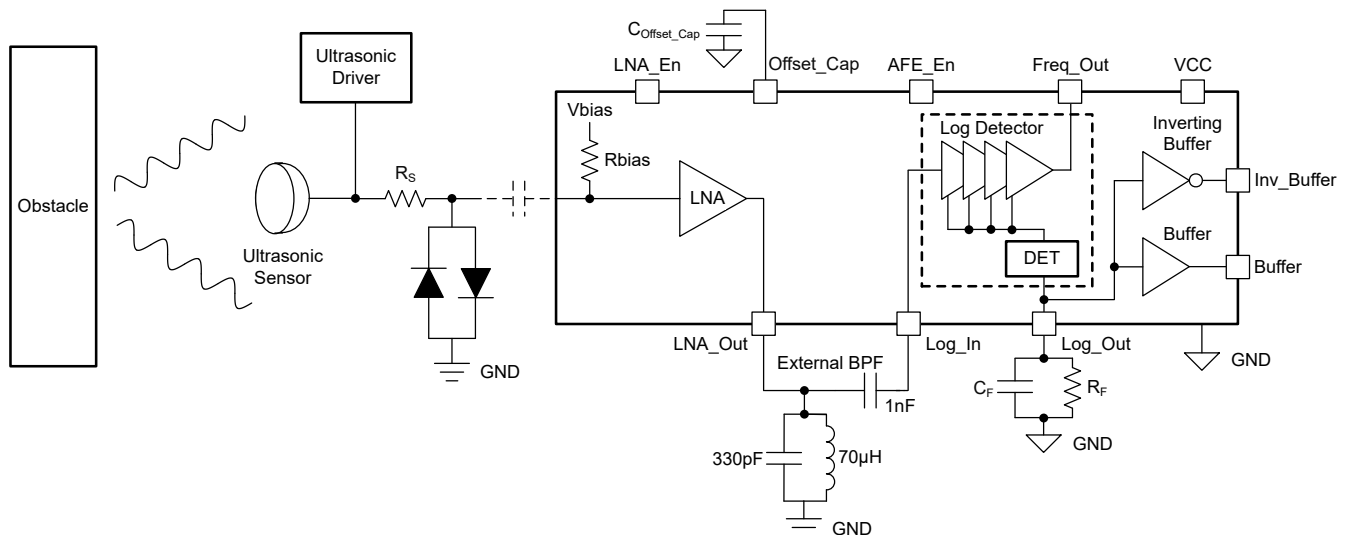

Figure 8-1. Ultrasonic Distance Sensor
The absolute maximum voltage rating of pin LNA\_In is ±1V. Add a back-to-back diode along with a series resistor (RS) at the input of the LNA (see also Figure 8-1). The back-to-back diode protects the LNA\_In pin from being exposed to any high voltages, especially during the transmit operation. Choose the series resistance value in accordance to the maximum power rating (PMAX) of the back-to-back diode. The added series resistor contributes to the input noise and deteriorates the minimum input sensitivity.
The maximum input for the Log\_Inp pin is 1.7VP for 5VCC (see also Section 5.1); therefore, add a band-pass filter (BPF) of appropriate attenuation in the pass-band region so that the detector block absolute maximum voltage rating is not violated. In this particular case, ensure that the BPF has an attenuation of at least -3.3dB. A BPF of -4.3dB is shown in Figure 8-1.